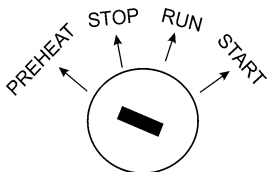

Figure 18. Ignition Switch 'PREHEAT'
7. Turn the ignition key to preheat (Figure 18), until the preheat indicator turns on.